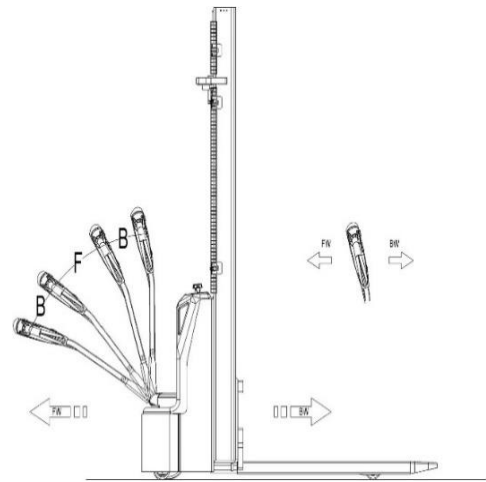

Fig.11: Operating direction
Turn the inserted key to "ON" (Fig. 8), pull up the emergency button carefully, start the truck, and move the tiller within the operating area 'F' (Fig. 11).
Turn the accelerator knob to the desired direction forward 'Fw.' Or backwards 'Bw.'(Fig. 11).Control the driving speed by carefully moving accelerator knob (13) until the desired speed is reached.If you move the accelerator knob back to the neutral position, the controller will decelerate the truck until it stops.
- The braking function can be activated in several ways (Fig.7, Fig. 11):
- By moving the accelerator knob (13) back to the initial '0' position or by releasing the knob, the regenerative braking is activated. The truck starts braking until it stops.
- By moving the accelerator knob (13) from one driving direction directly to the opposite direction, the truck brakes regenerative until it starts traveling into the opposite direction.
- The safety (belly) button (12) prevents the operator from being crushed. If this button is activated, the truck decelerates and/ or starts traveling backwards ('Bw.') for a short distance and stops. Please consider, that this button also operates, if the truck is not traveling and the tiller is in the operating zone.